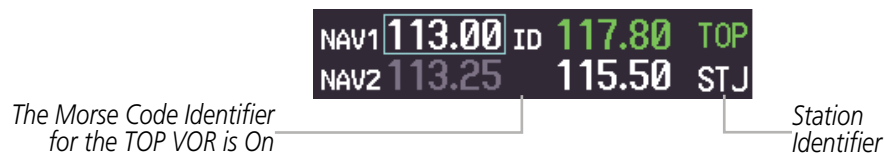

Figure 4-25 NAV Radio ID Indication
- 3) On the Nearest VOR and Nearest Airports pages, press the **FREQ** Softkey to place the cursor on the NAV frequency (Figure 4-25).